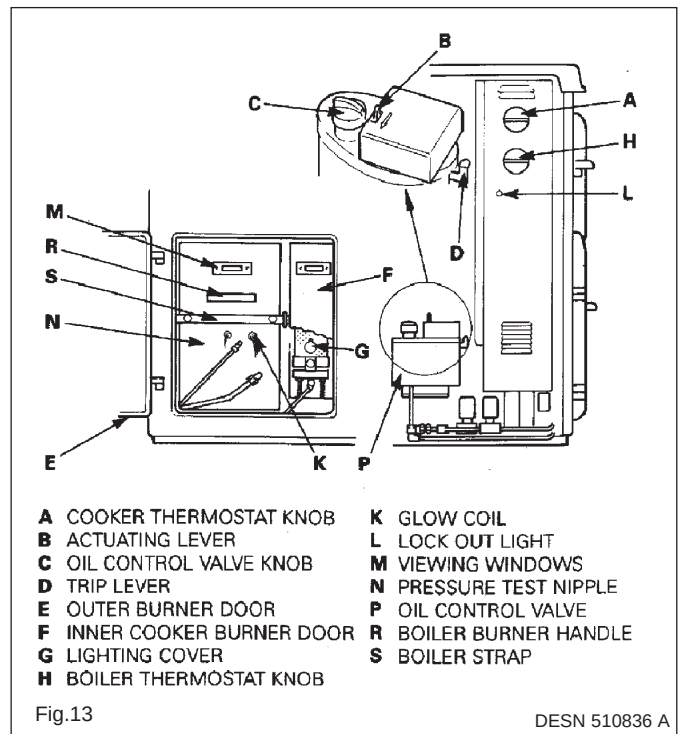

Fig.13
2. Fit the support pins to the valve and set the height. The correct height of this valve is 182mm from the base of the appliance to the oil level mark on the valve body. See Fig. 13.
SEE FIG. 13
4. After allowing 15 minutes for oil to settle in the cooker burner base, open the lighting cover **G** on front of burner shells to expose a lighting port. Fig. 13.